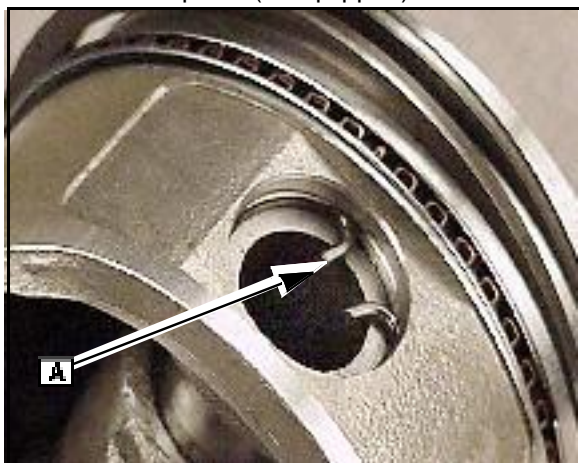

Fig. 4
1. Remove snap ring ([A] Fig. 4) from both sides of piston( if equipped).